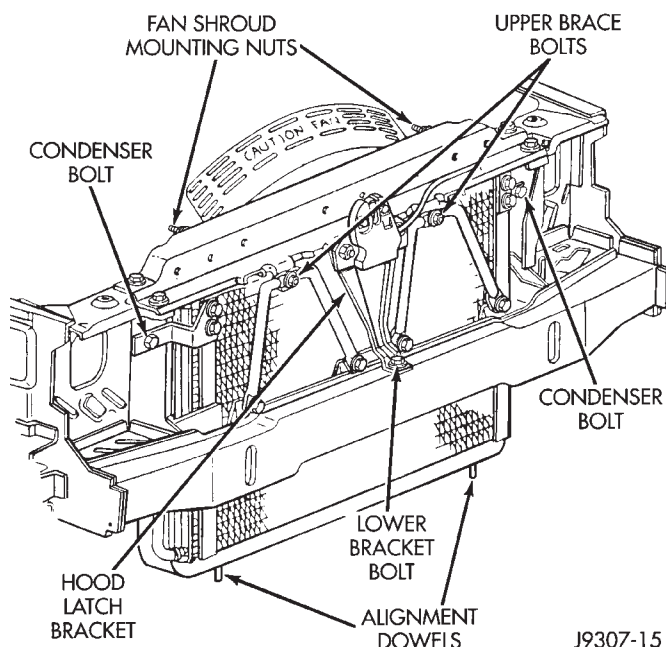

Fig. 34 Radiator—A/C Condenser Mounting—Typical
- (1) Disconnect the negative cable from the battery.
- (2) Discharge the A/C system into a recovery/recycle device (refer to Refrigerant Service Procedures).
- (3) Disconnect the A/C hoses from the condenser. Plug the openings.
- (4) Remove the grille.
- (5) Remove the upper brace bolts from the two radiator braces (Fig. 34).
- (7) Working through grille opening, remove the bolt securing lower part of hood latch support brace to lower frame crossmember (Fig. 34).